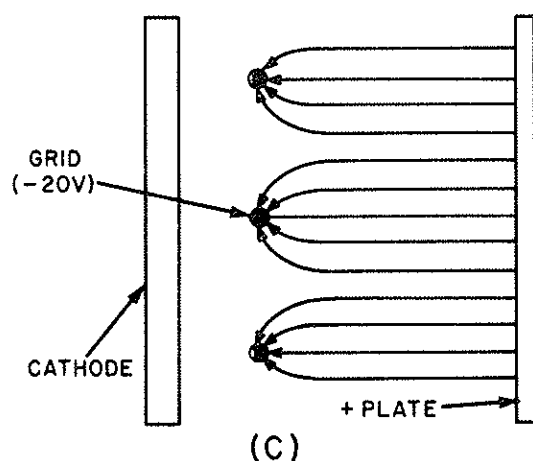

Figure 2-7.—Cut off in a conventional tube.
To understand how the unique grid construction of a variable-mu tube works, we will first examine the grid operation of a conventional tube during cutoff. Look at figure 2-7. Here, you see a diagram of a conventional sharp-cutoff triode with zero volts applied to the control grid. In view (A), the majority of the electrostatic lines of force leave the positive plate (+) and travel unhindered between the evenly spaced grid wires to the negative cathode (-). Electrons emitted by the cathode travel along these lines from the cathode, through the grid spacings, to the plate.